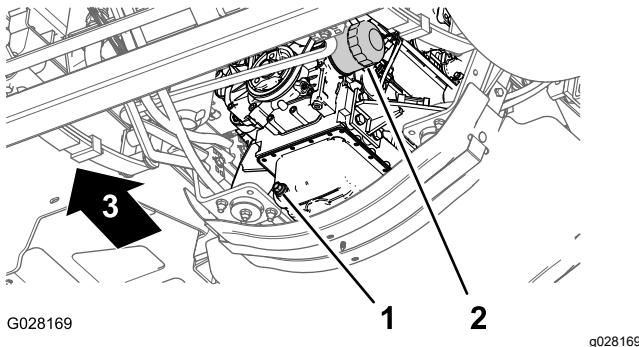

Figure 74
3. Align a drain pan under the engine oil filter (Figure 74).
4. Remove the old oil filter (Figure 74).
8. Install the oil filter to the filter adapter and turn the oil filter clockwise until the rubber gasket contacts the filter adapter, then tighten the filter an additional 1/2 turn (Figure 74).
1. Align a drain pan under the drain plug (Figure 74).
2. Remove the drain plug (Figure 74) and allow the oil to drain completely.